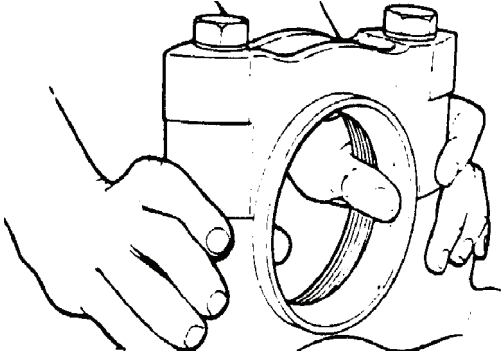

Figure 67.
- (1) Before installing differential and gear assembly, temporarily install bearing cups, threaded adjusting rings and bearing caps in the correct location as marked. Install cap, capscrews and washers and tighten to specified torque value.
- (2) Bearing cups must be of a hand push fit in bores, otherwise bores must be reworked with a scraper or emery cloth until a hand push fit is obtained. Use a blued bearing cup as a gauge and check the fits as work progresses. Refer to Figure 67.